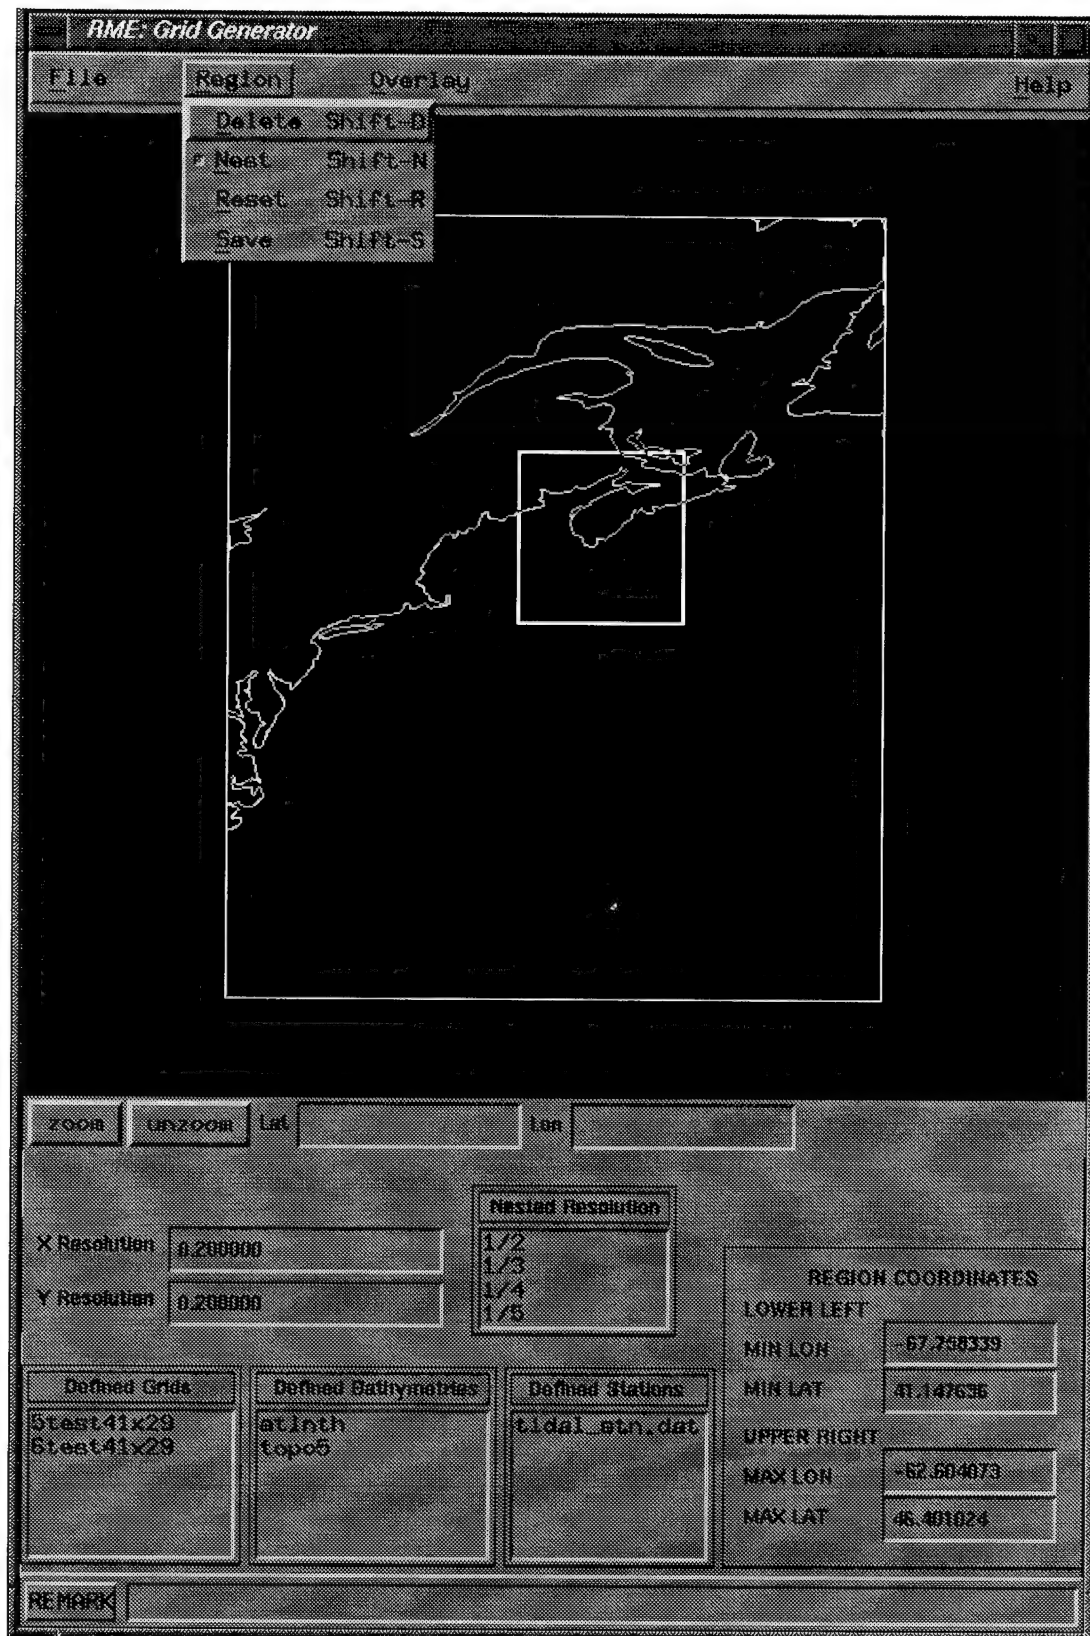

Figure 5 – Nesting a region in the Grid Generator
4. Use the 'zoom' button to zoom in for final region selection or for nesting a grid (see Figure 5).